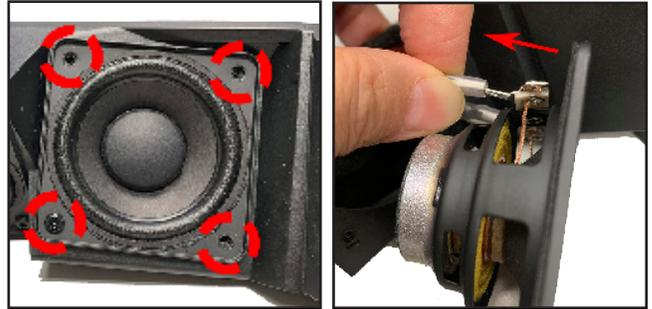

Figure 19. Driver Screws & Cable Removal
2.2 Remove the 4 screws securing the 1 Driver to the Baffle as indicated in Figure 19 (left).
2.3 Detach the Driver's cable by pressing the white fastener. Figure 19 (right).